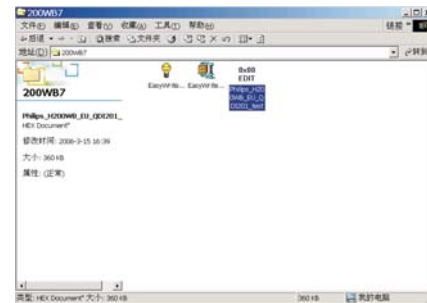

Fig. 5
Step 5 :Copy the Philips\_H200WB\_EU\_QDI201\_test to C:\200WB7 as shown in Fig. 5 .